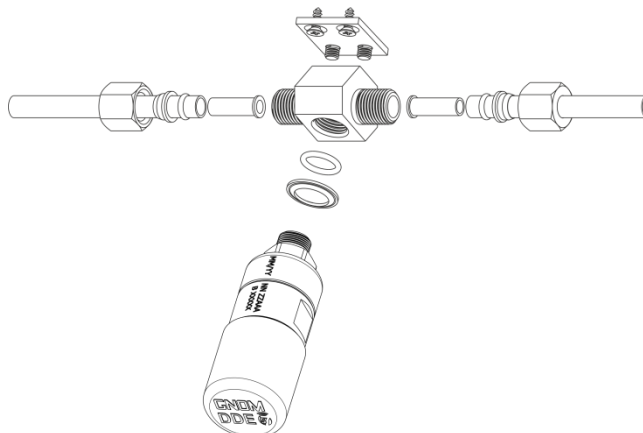

Figure 14 — Procedure for GNOM DDE S7 mounting, according to Mounting scheme 3
- 2) In case of using a fitting connector (T-connector/splitter) from GNOM MK DDE2 mounting kit, any convenient location in the place where **the air supply lines of the Vehicle air suspension are connected** is suitable. You may mount the sensor **into the cut of the Vehicle suspension air supply line** using a pipe $\varnothing=8$ mm, in accordance with **Mounting scheme 3** (see figure 14).